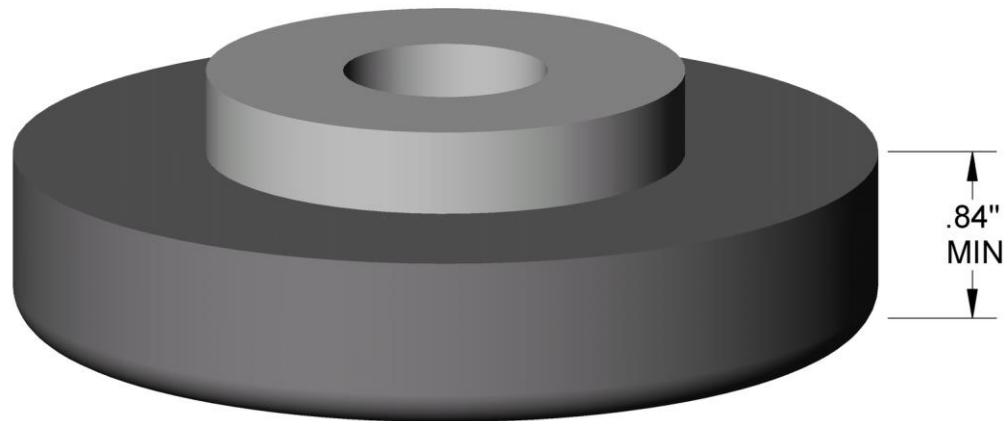

Figure 1
2. Measure the height of the Center Bonded Mounting just prior to re-installation. The height must be $.84''$ or greater to be acceptable for re-use (see figure 1). Allow 24 hours for relaxation.